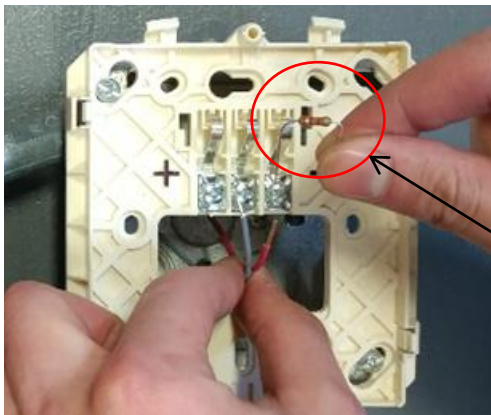

Figure 4
5. See **Figure 4**. Disconnect **RED** and **GRAY** wires and remove **end-of-line resistor** from base-plate. **IMPORTANT: DO NOT DISCARD END-OF-LINE RESISTOR.**